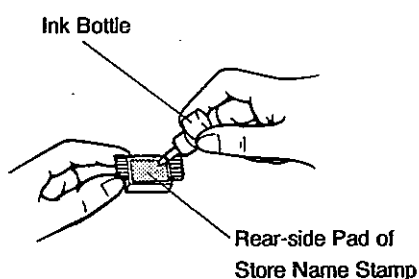

Fig. 8
- 4) Apply ink to the pad on the rear side of the Stamp. The amount of the refilling should be adjusted according to the density of the printed message, but the limit of 2 cc should not be exceeded. (The ink bottle supplied contains 5 cc of ink.) (Fig. 8)